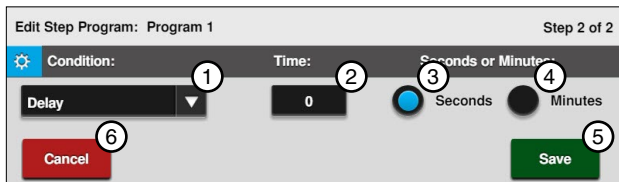

Figure 92-2 1. Condition Drop-Down 4. Minutes
3. The default condition is Delay. If Delay is not selected select the **Choose Condition** drop-down menu and choose **Delay**. Refer to Figure 92-2.